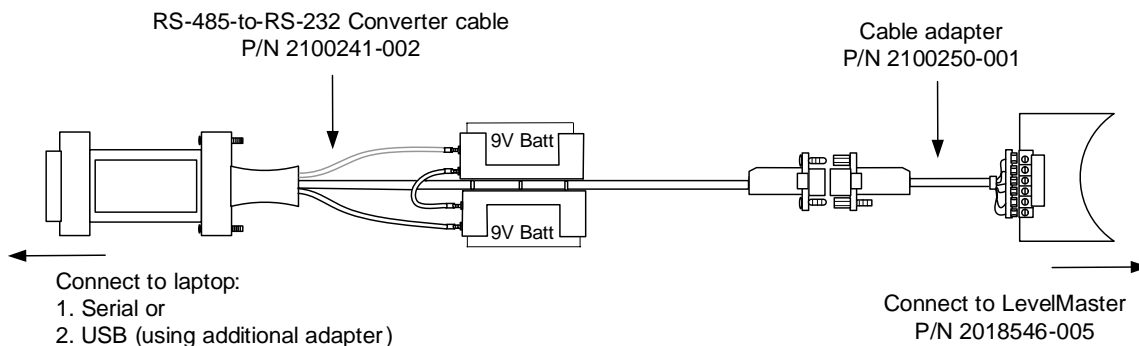

Figure 37: Cable and adapters for local communication (2018546-005 boards)
- b. For boards part number 2018546-005 (legacy boards), connect the RS-485-to-RS-232 converter (2100241 - 002) to the cable adapter (2100250 – 001), the cable with a single terminal connector at one end (Figure 37).